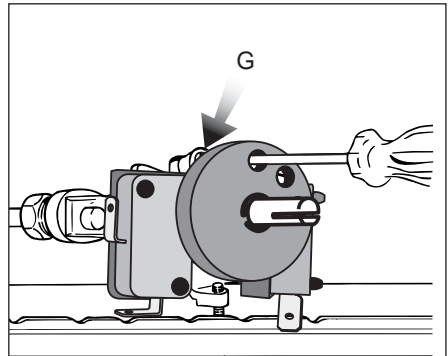

Fig. 10.18
- remove the knob and by a thin screwdriver (3 mm section - 100 mm long) unscrew of about a half turn the screw by-pass **G**, passing through the front panel hole (fig. 10.18)